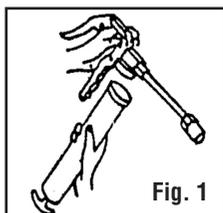

Fig. 1
1. Remove the gun head from the container tube. (fig. 1)